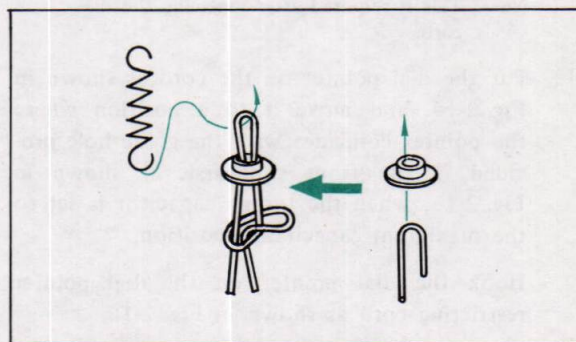
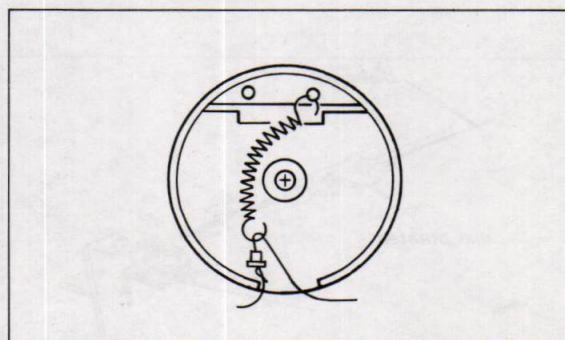

Fig. 2-11. Detail of dial cord finish
Fig. 2-12. End of dial cord stringing
5. Pass the doubled end of the cord through the eyelet (See Fig. 2-11), then hook it to the spring as shown in Fig. 2-12.
6. Tighten the cord, then squeeze the eyelet so that the spring is under tension. Make a knot in the cord end to keep it from slipping out of the eyelet. See Fig. 2-11.